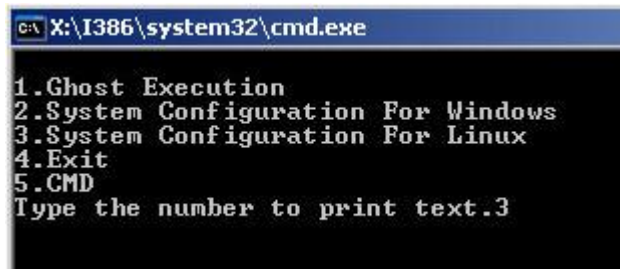

Figure A-23: System Configuration for Linux
**Step 4: Build-up recovery partition.** Press any key to boot from the recovery CD. It will take a while to launch the recovery tool. Please be patient. When the recovery tool setup menu appears, type <3> and press <Enter> (**Figure A-23**). The Symantec Ghost window appears and starts configuring the system to build-up a recovery partition. After completing the system configuration, press any key to reboot the system. Eject the recovery CD.